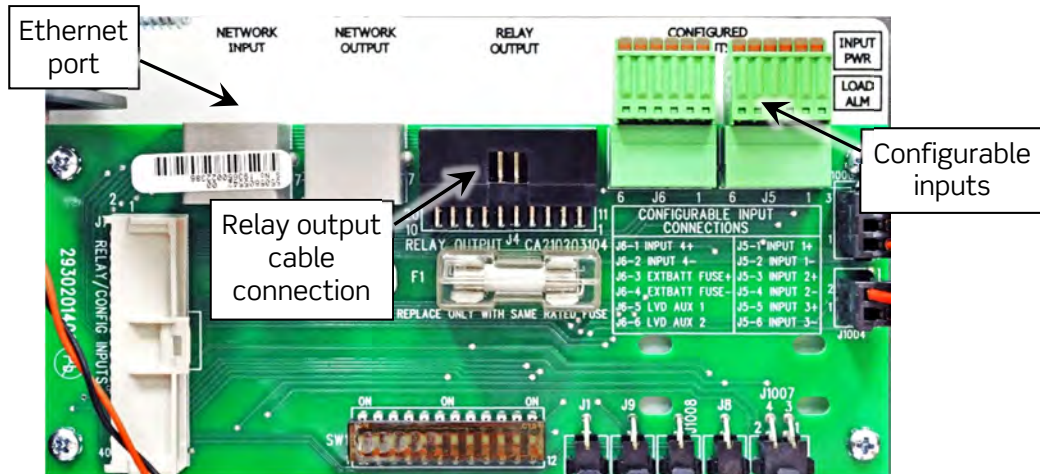
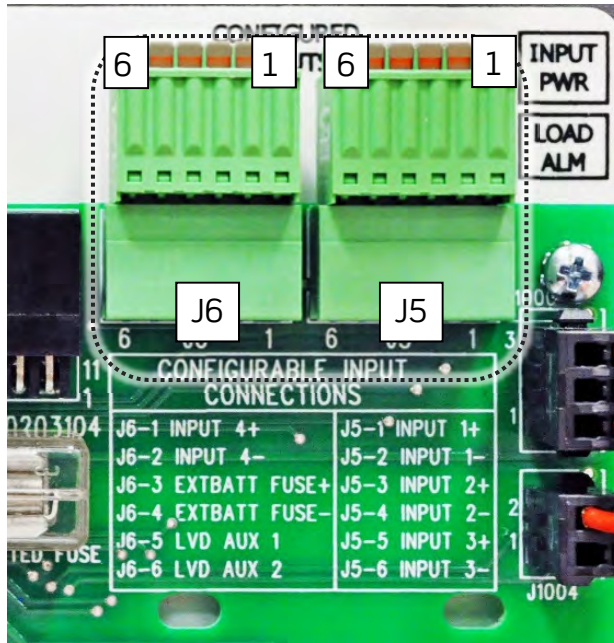

Figure 30 - Controller Connection Ports
Figure 32 - Configurable Input Connections
Before making controller connections, refer to “Controller Specifications,” on page 12, for information regarding the Smartpack S controller. Most controller connection ports are located on the connection board, found on the right (front) side of the distribution (see Figure 30).
1. Route the alarm cable from alarm transport equipment to the **Relay Output** port on the front right side of the distribution (see Figure 30).
1. Route the Ethernet cable from your network to the **Network Input** port on the front right side of the distribution (see Figure 30 on page 42).
Battery temperature probe connections are made to the terminal block(s) located on the right (front) side of the distribution (Figure 30, page 42, and Figure 32, below). Before making battery temperature probe connections, refer to the section “Controller Inputs,” page 13.